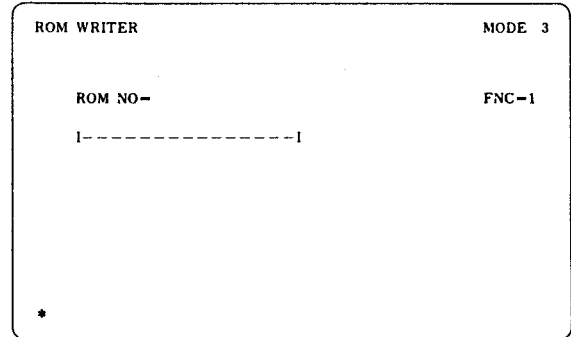

Fig. 9.25
- vi. Depress the **1** and **WR** keys on the editing panel. (See Fig. 9.25)